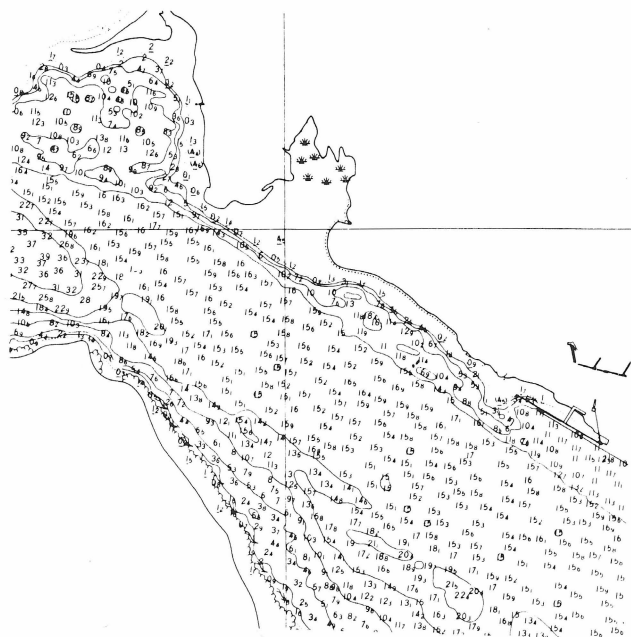
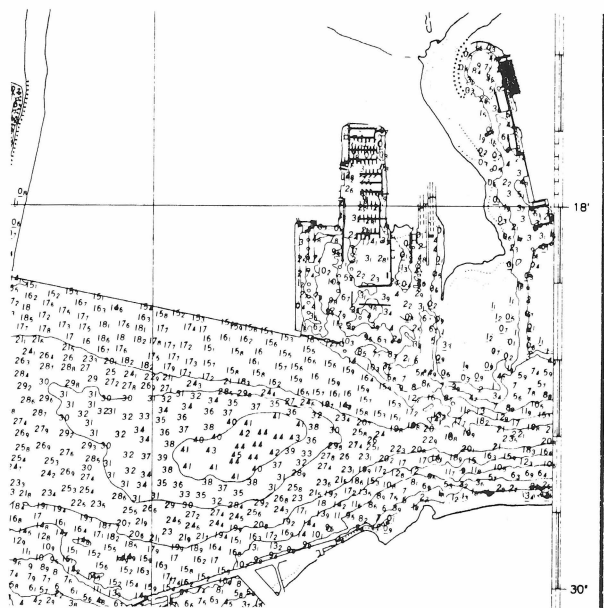

Figure 3: Chart Data with Overplot Removed. Shoals with 50% Margins and Deeps with 2000 % Margins
Figure 4: Data with Overplot Removed Illustrating Channel Problem
1. Gaps, or blank areas, were found where it appeared that one or more soundings could fit. These were caused by the order in which the soundings were selected, and an examination of these gaps revealed that there were no shoaler soundings within them. Although the computer selection was not as pleasing to the eye as a manual one, the selected shoal soundings were deemed to provide a suitable shoal-biased data set for chart production purposes (see figure 3).
2. The deep-biased selection was found to be inadequate. Contoured depressions did not always have the deepest depth selected (see figure 3) and there were insufficient depths in long, narrow channels (see figure 4). The problem was caused by the wide spacing between depths. Although not many deeps are required for a chart, a dense data set is needed for selection purposes.